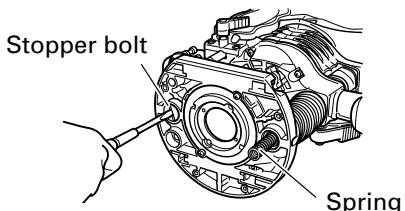

Fig. 18
- (1) Loosen the 4 sub base screws, and remove the sub base.
- (2) Loosen the stopper bolt and remove it, so the spring can be removed. (Fig. 18)